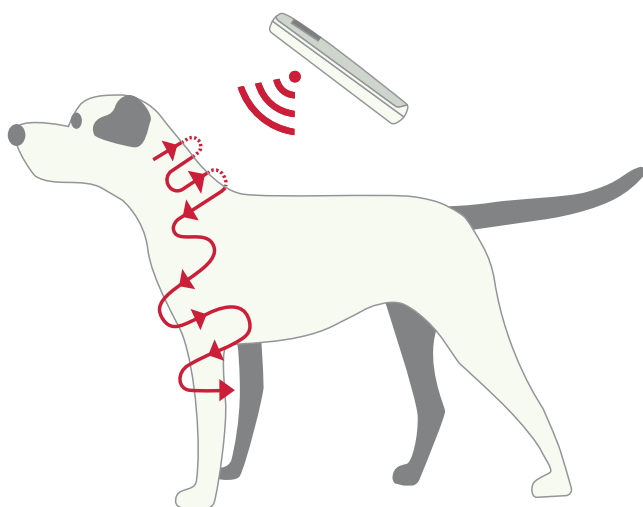
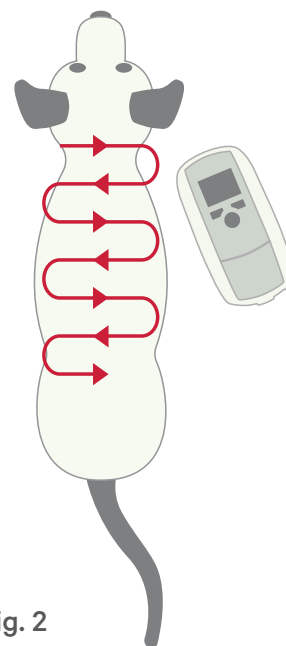

Fig. 1
Fig. 2
For optimal reading, keep the scanner parallel to the animal's body (see Fig. 1) and avoid pointing it directly at the animal. Scanning should be performed slowly and over the entire body holding the scanner close to or touching the animal skin/fur.
- Scan the animal performing a vertical “S” pattern down the animal's body or animal side starting from the neck, as shown in fig. 1 and fig. 2.